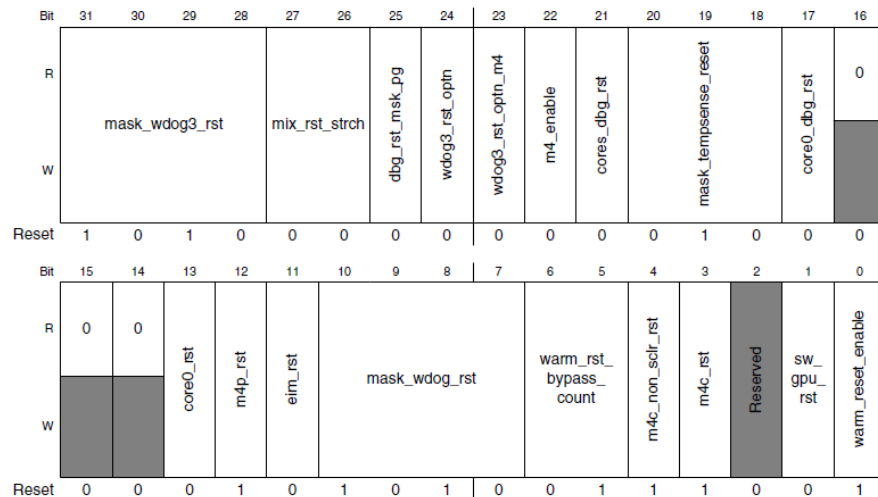

Figure 2. SRC Control Register (SRC_SCR)
- Repeat 1-3 for reloading a new image. More details about the **SRC_SCR** register are provided in Figure 2.